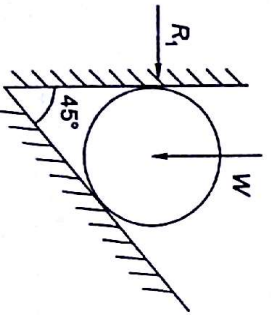

Fig. 3.59
3.2 A sphere of weight W is lying between two inclined planes at an angle of 45° . What is reaction R_1 (Fig. 3.59)?